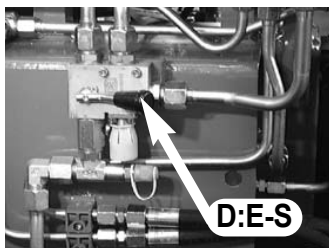

fig. 15b
- Position lever **D** of oil diverter crane-outriggers (? - E/S) on **E/S**. Fig. 15b
- Position lever **D** of oil diverter crane-outriggers (🌀 - **E/S**) on **E/S**. Fig. 15b